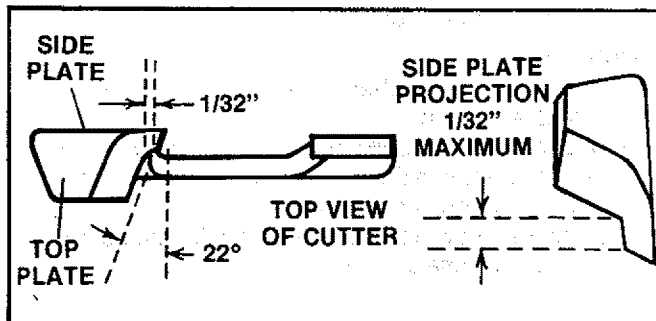

Figure 24
7. Maintain a 1/32" side plate projection. Figure 24.